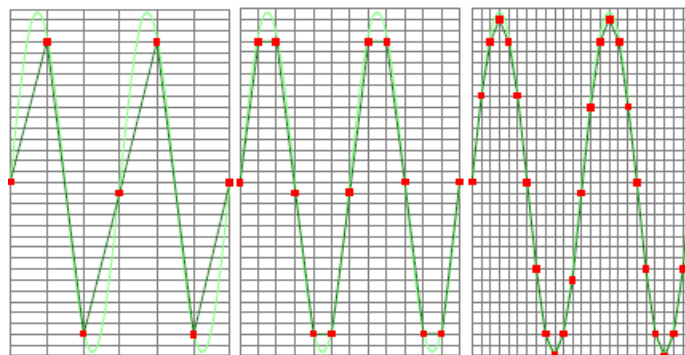

Figure 3.3: The effect of the sampling rate
- As is visible in figure 3.3, with a higher sampling rate, the original signal can be reconstructed much better from the measured samples.